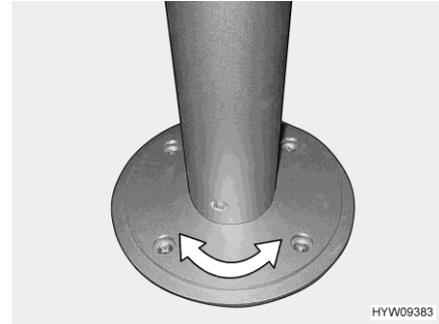

Fig. 65 Pillar table leg (rotatable)
- Rotate table top to the desired position. In order to do this, you need a little effort, because the table top rotates against the friction resistance on the pillar table leg (Fig. 65).